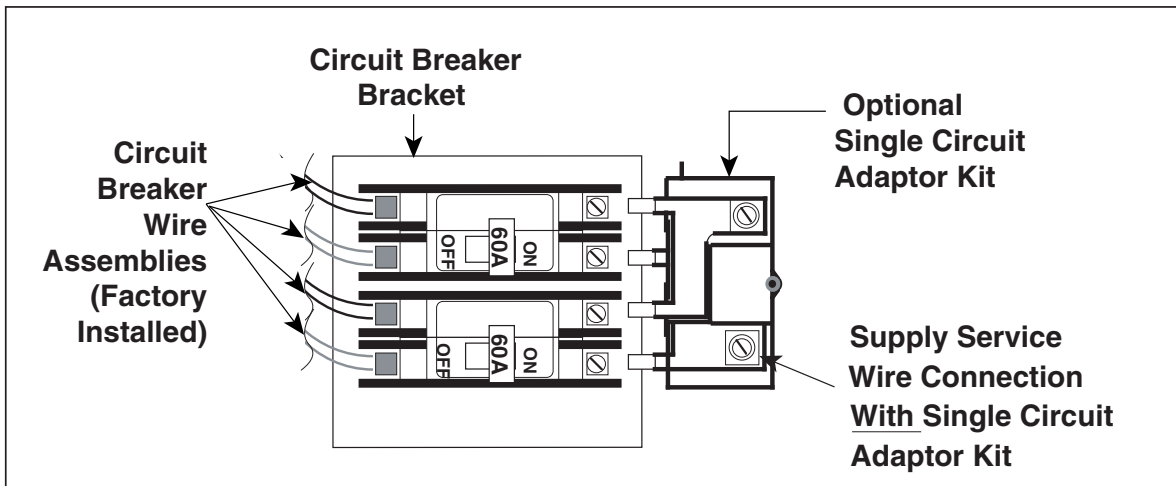

Figure 20. Installation of Optional Single Circuit Adaptor Kit
- -012 models are factory-wired for single-branch supply circuit (single-circuit kit installed). Dual-branch circuit can be used by removing factory-installed single-circuit kit (see Figures 20 and 21).
4. Insert supply service wire(s) through cable connector(s) and connect wires to circuit breakers (Figures 20 and 21).